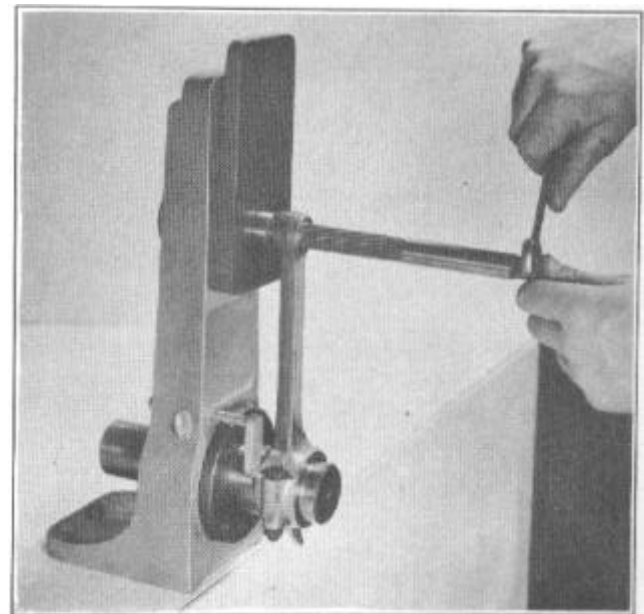

FIGURE 32
7. Insert reamer through connecting rod bushing and into pilot bushing, Figure 32.